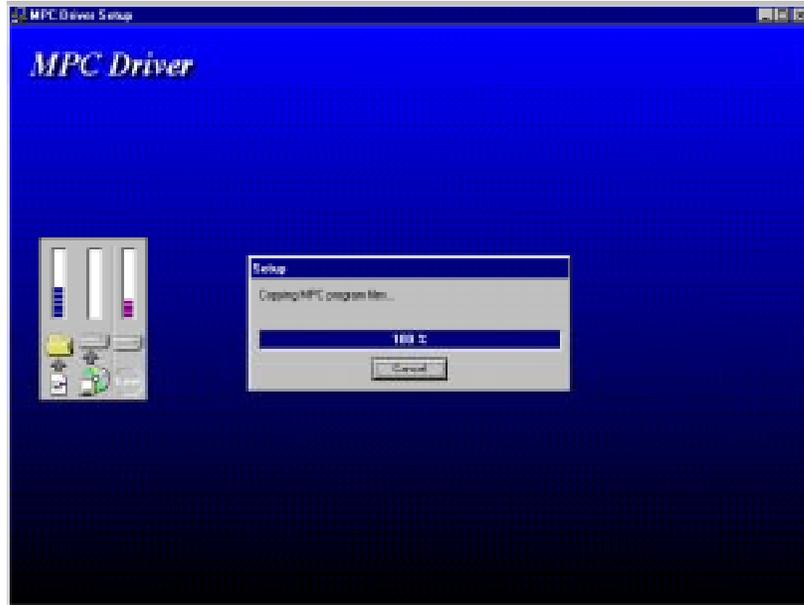

Figure 5-5. Installation Progress
- The Choose Destination Location dialog box will display showing the target installation directory (Figure 5-4). Unless you have a specific reason for changing the directory you should allow it to default to “C:\CHANNEL\MPC”. Click **N**ext to continue the install. Progress bars will display while the MPC+ driver is copied to the Netfinity’s hard drive (Figure 5-5).